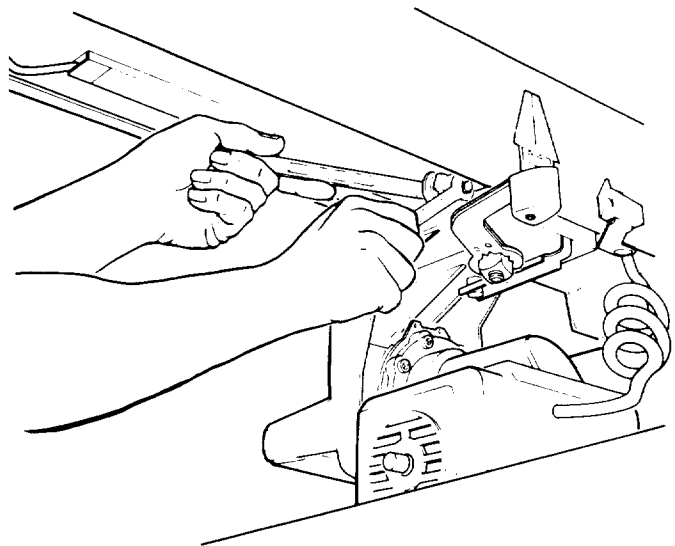

Fig. 76
6. Loosen the hex nut on the *rear carriage bearing*. Use a 9/16 inch wrench to hold the bolt and a 1/2 inch wrench to loosen the nut. (Figure 76)